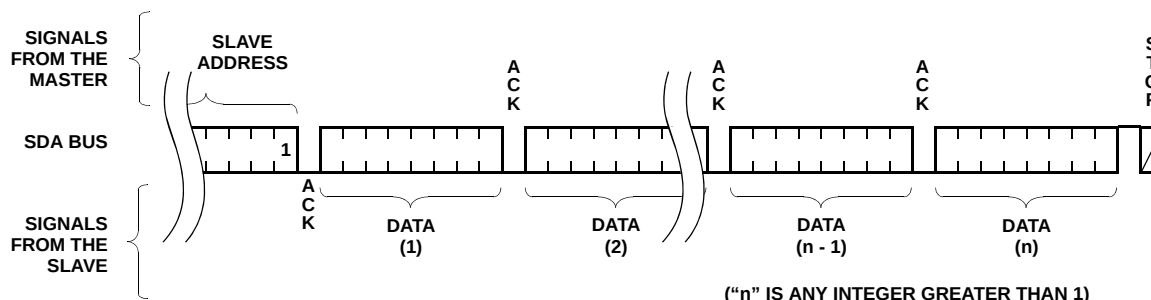

FIGURE 11. SEQUENTIAL READ SEQUENCE
The data output is sequential, with the data from address n followed by the data from address $n + 1$. The address counter for read operations increments through all page and column addresses, allowing the entire memory contents to be serially read during one operation. At the end of the address space the counter "rolls over" to address 0000_H and the device continues to output data for each acknowledge received. Refer to Figure 11 for the acknowledge and data transfer sequence.
- one bit of the slave command byte is a R/W bit. The R/W bit of the slave address byte defines the operation to be performed. When the R/W bit is a one, then a read operation is selected. A zero selects a write operation. Refer to Figure 11.